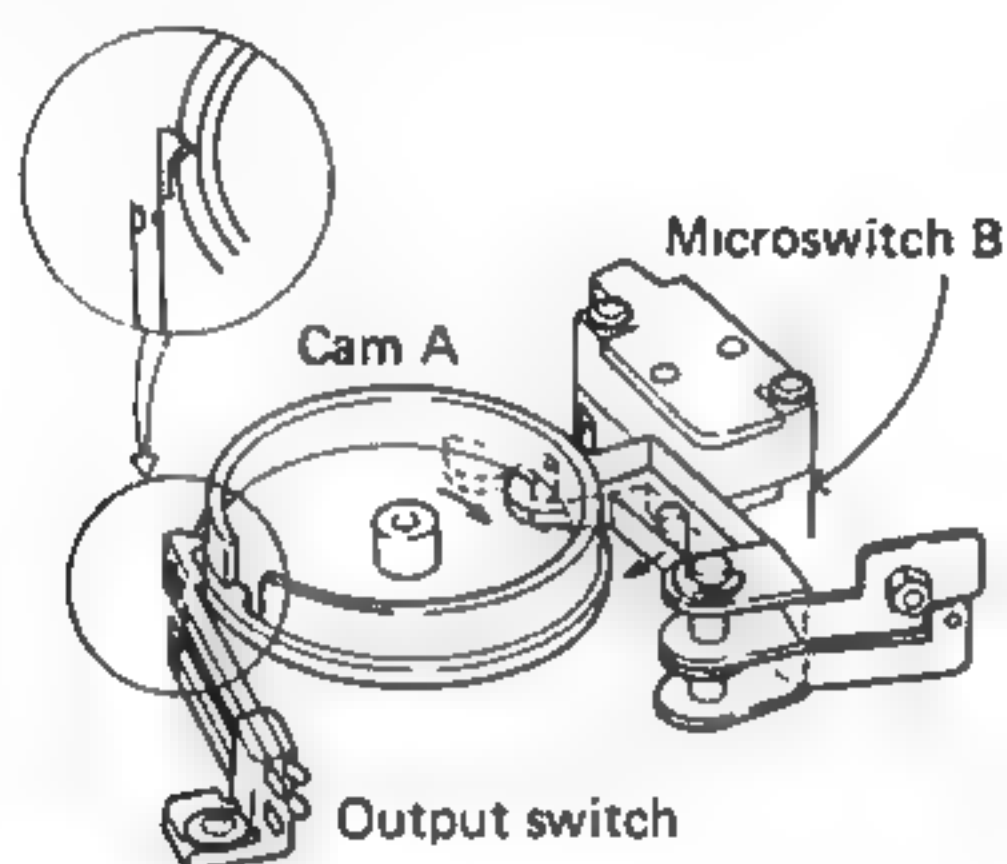

Fig. 7
9. At this point, cam A sets microswitch B to OFF and TM rotation stops. The cartridge output shorting switch opens at the same time (Fig. 7).